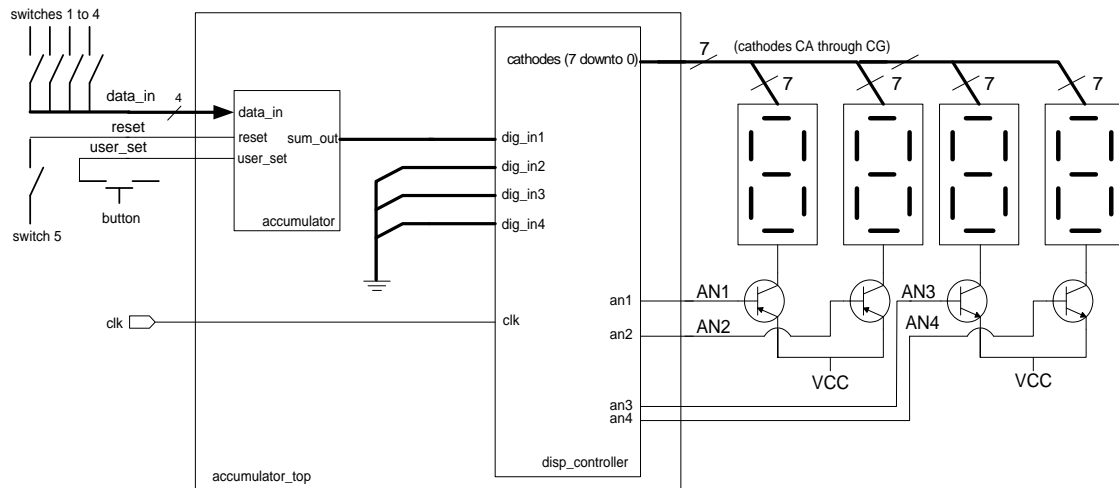

Figure 18; Accumulator implementation schematic.
The accumulator will be implemented in the Spartan 3 FPGA board following the schematic shown in figure 18.
2. Analyzing disp_controller.vhd description; Open the file disp_controller.vhd by double clicking on it under **Sources in Project** window. This file describes the “disp_controller” block shown in figure 18. It is a variation of the display controller we saw in previous labs. Each one of the inputs “dig_in1” to “dig_in4” will correspond to the digit displayed at each of the seven segment displays.
3. Creating a new source file; Following the same procedure as in step 1,2 and 3, go to **Project** → **New Source**, select **VHDL Module** and enter the name “top_accumulator”. Define the VHDL source as a structural architecture and declare the inputs and outputs of the accumulator following the block diagram in figure 18. Click **Next** → **Finish**. The result will be a new source file where the skeleton is ready for you to fill it out with the description of the circuit.
4. Declaring components; Following logic diagram in figure 18, you will need two kind of components; an accumulator and a display controller. Remember that a component declaration goes between “architecture structural of top_accumulator is” line and the “begin” line.
connections between components) goes between the lines “begin” and “end structural” in the VHDL description of the system. Follow the logic diagram in figure 18 to describe the connections between the components and inputs/outputs of the system.